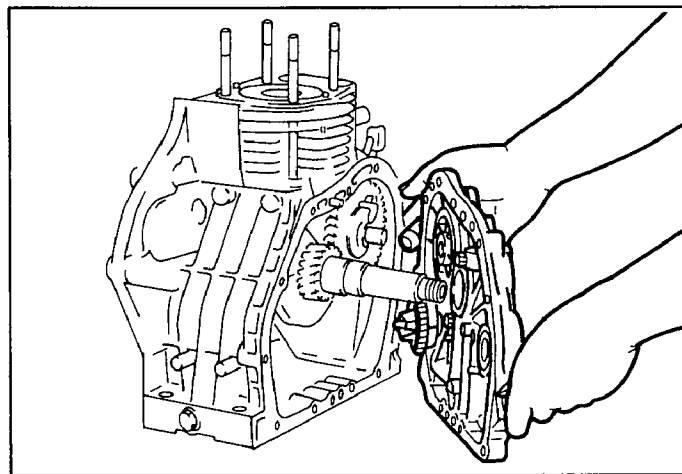

FIG. 53
1. As the governor gear is mounted on the main bearing cover side, install the main bearing cover while checking that it meshes with the teeth of the cam gear. (See Fig. 53.)